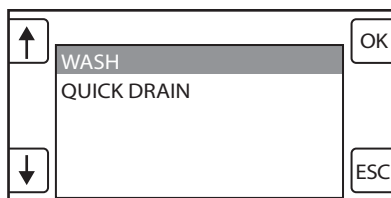

Figure 7 Select Cycle Screen
5. Verify the Select Cycle screen appears on the control panel display (see figure 7).